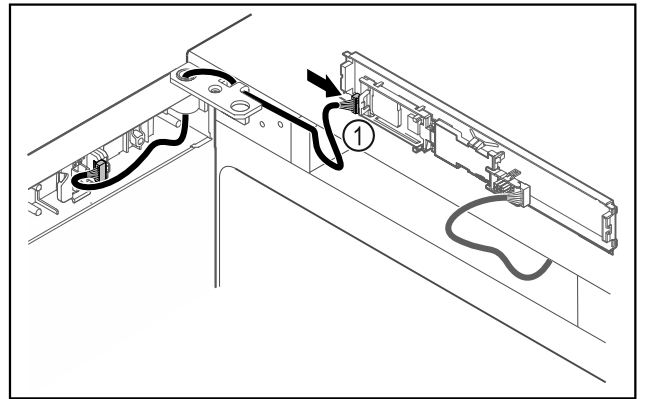

Fig. 45
- ▶ Connect the plug Fig. 45 (1) to the circuit board.